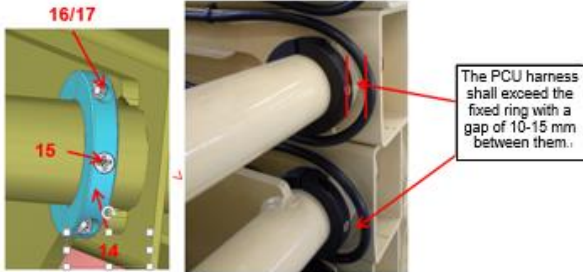

Fig. 4.64 Installation of fourth layer pipeline
o) Use part 15 to fix part 14 at the rear pipe of the fourth layer inner frame, and then use piece 17 to fix piece 16 on piece 14, as shown in Figure 4.64;